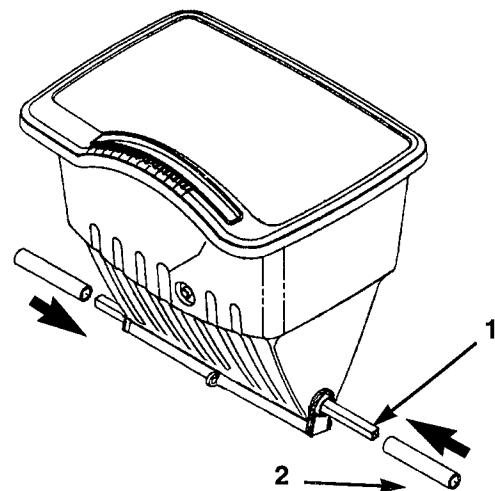

Figure 5
3. Align the square axle with the square hole of the impeller and slide the axle through the hopper until it extends equally from each side (Fig. 5).
4. Place an axle bushing on each end of the axle and slide them *into* the hopper bushings (Fig. 5).